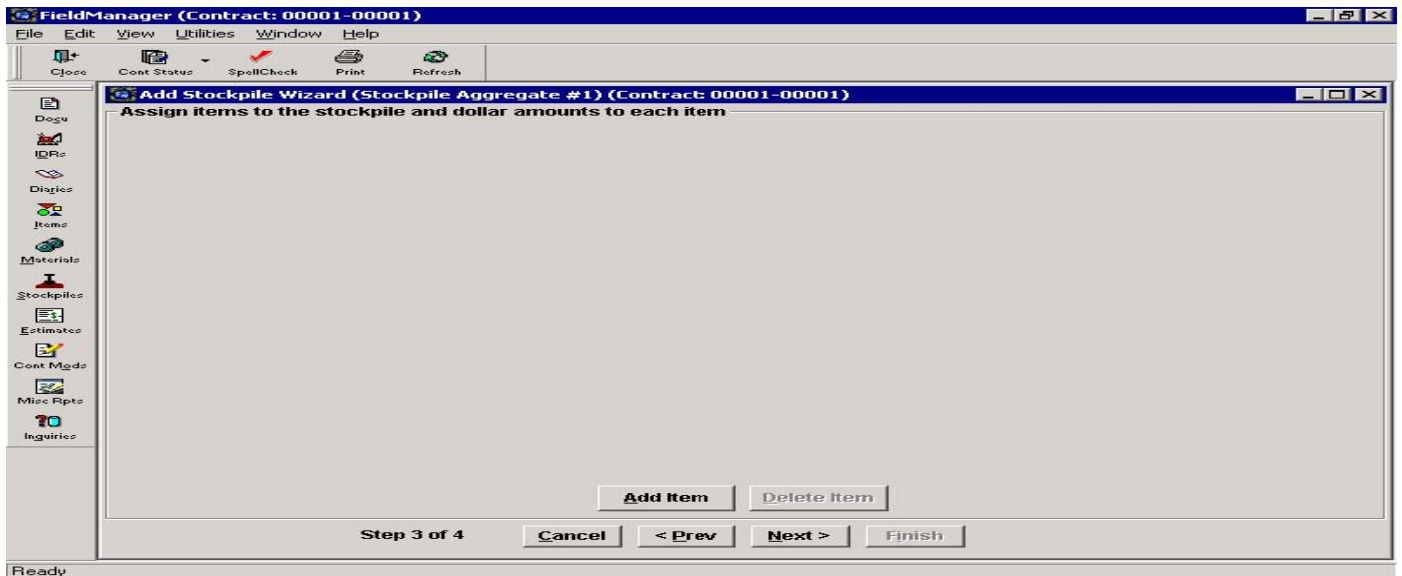

Figure 8-4
Step 3 of 4 asks you to assign items to the stockpile, and dollar amounts to each item (see Figure 8-4).